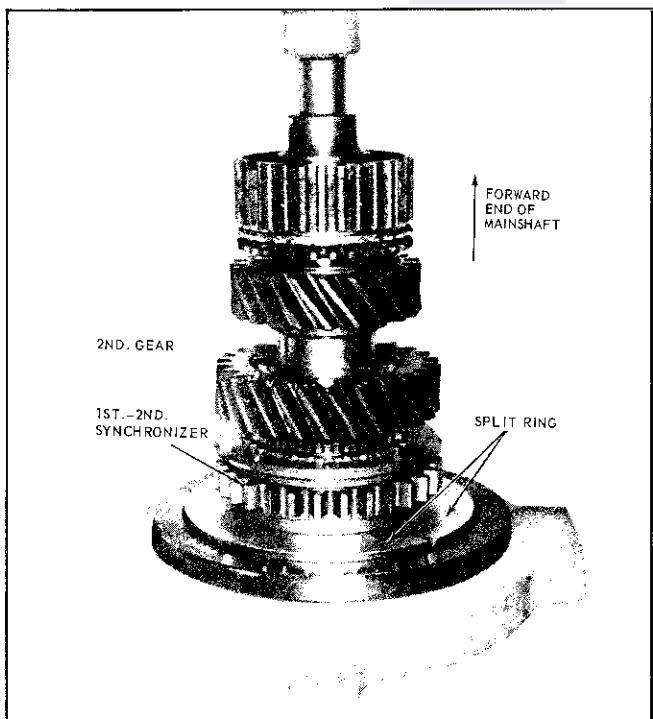

Fig. 7C-14 Installing 1st and 2nd Synchronizer and Second Gear
7. With fork slot downward, press 1st and 2nd synchronizer assemblies onto splines of mainshaft (Fig. 7C-14).
8. Install 1st and 2nd synchronizer snap ring (Fig. 7C-4).